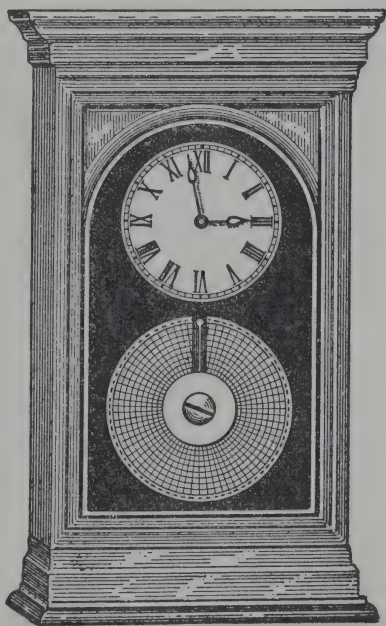

Fig. 45
15. *Watchman's Time Detector* (Fig. 45).—This is a device to compel a watchman to make his appointed